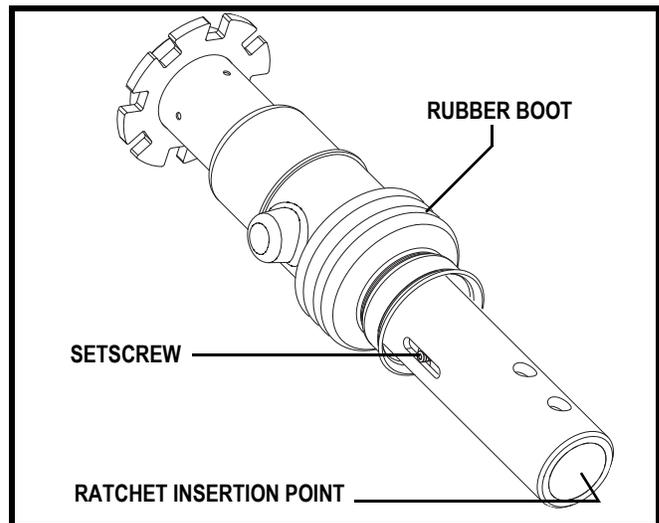

Figure 18. Seat Suspension Adjustment
The seat post acts as a shock absorber and can be adjusted for different degrees of comfort. Use the setscrews that are visible through the adjustment window on the side of the post as a guide when making adjustments. Slide the rubber boot towards the top of the post to expose the setscrews. See **figure 18**.
3. Insert a 13 mm socket with an extension into the bottom of the post. See **figure 18**.